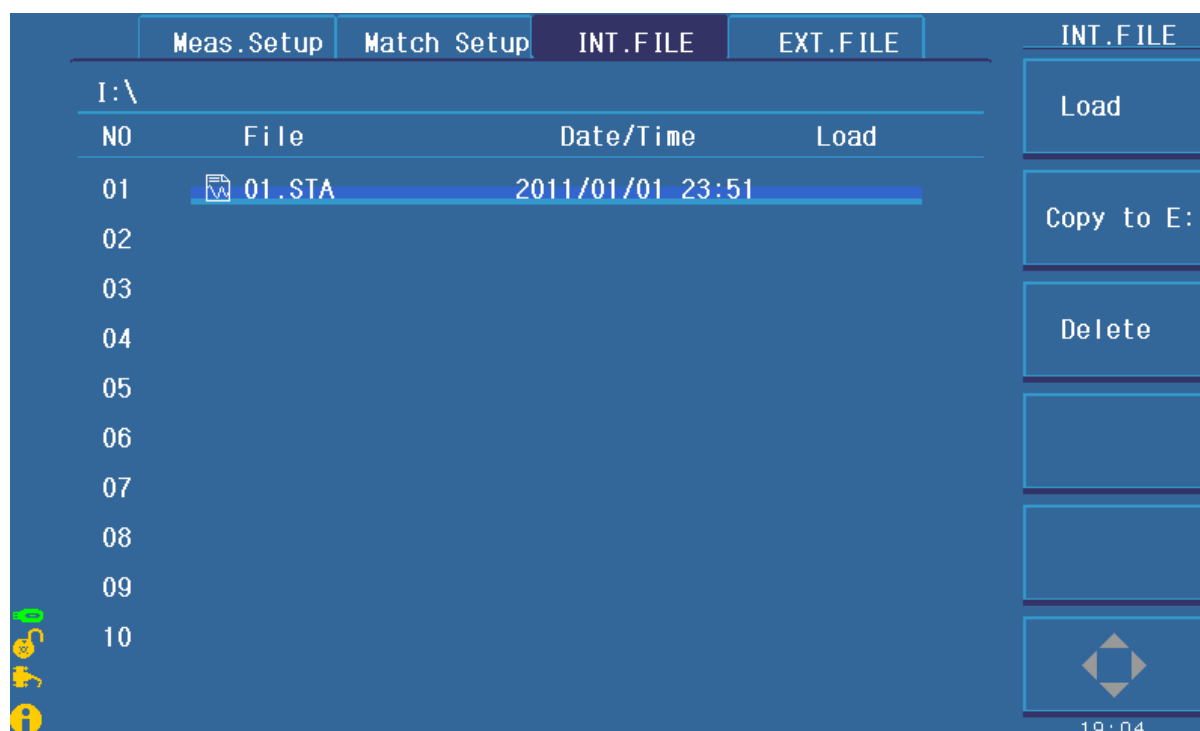

Figure 5-3 Internal File
Figure 5-3 shows the page of internal file.
- **Load** Press this key to load a file stored in the internal non-volatile memory. As figure 5-3 indicates, using the arrow key or the roller can select the needed